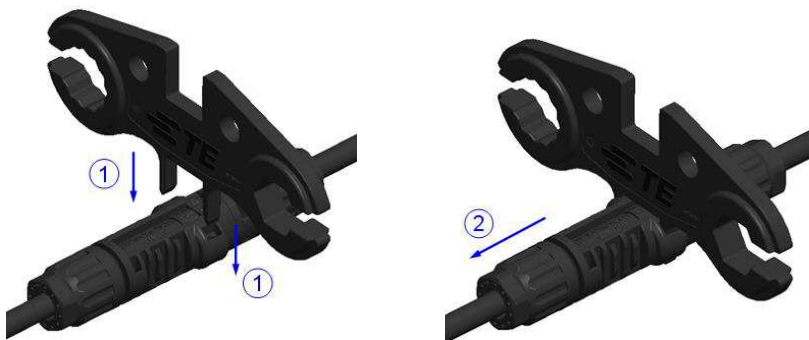

Figure 13
1. The locking mechanism is opened by depressing the latches with hand application tool (1971903-1) as shown in **Figure 13**.